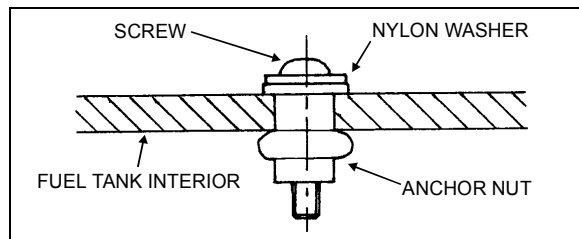

FIGURE 19: FUEL TANK REPAIR 03014
5. Place assembly in drill hole. Tighten screw by 10 complete turns. Refer to Fig. 19.